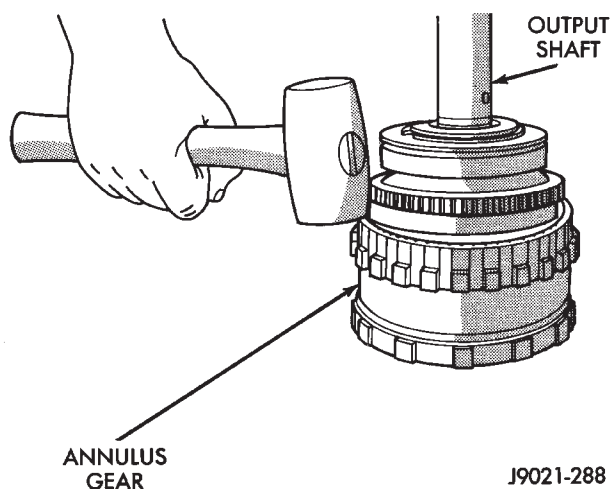

Fig. 32 Annulus Gear Removal
(11) Remove annulus gear from output shaft (Fig. 32). Use rawhide or plastic mallet to tap gear off shaft.
Examine the overdrive and direct clutch discs and plates (Fig. 32). Replace the discs if the facing is worn, severely scored, or burned and flaking off. Replace the clutch plates if worn, heavily scored, or cracked. Check the lugs on the clutch plates for wear. The plates should slide freely in the drum. Replace the plates or drum if binding occurs.
Check condition of the annulus gear, direct clutch hub, clutch drum and clutch spring (Fig. 32). Replace the gear, hub and drum if worn or damaged. Replace the spring if collapsed, distorted, or cracked. Be sure the splines and lugs on the gear, drum and hub are in good condition. The clutch plates and discs should slide freely in these components.